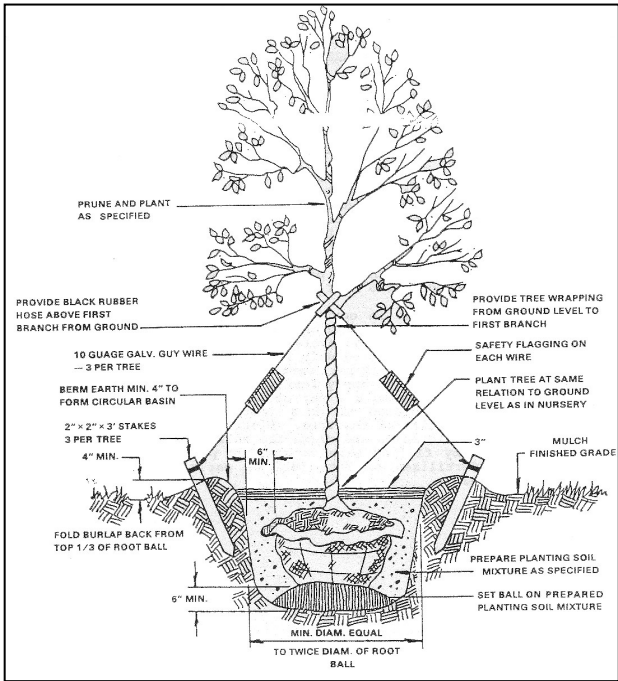

Figure TP-1 Tree Planting Diagram
- Prepare hole to allow proper placement of the root ball. (See Figure TP-1).
- If needed, provide support with stakes and guy wires (see Figure TP-1). Guy wires should be loose enough to allow some movement of the tree. Webbing straps can be less damaging than wire to the new tree.